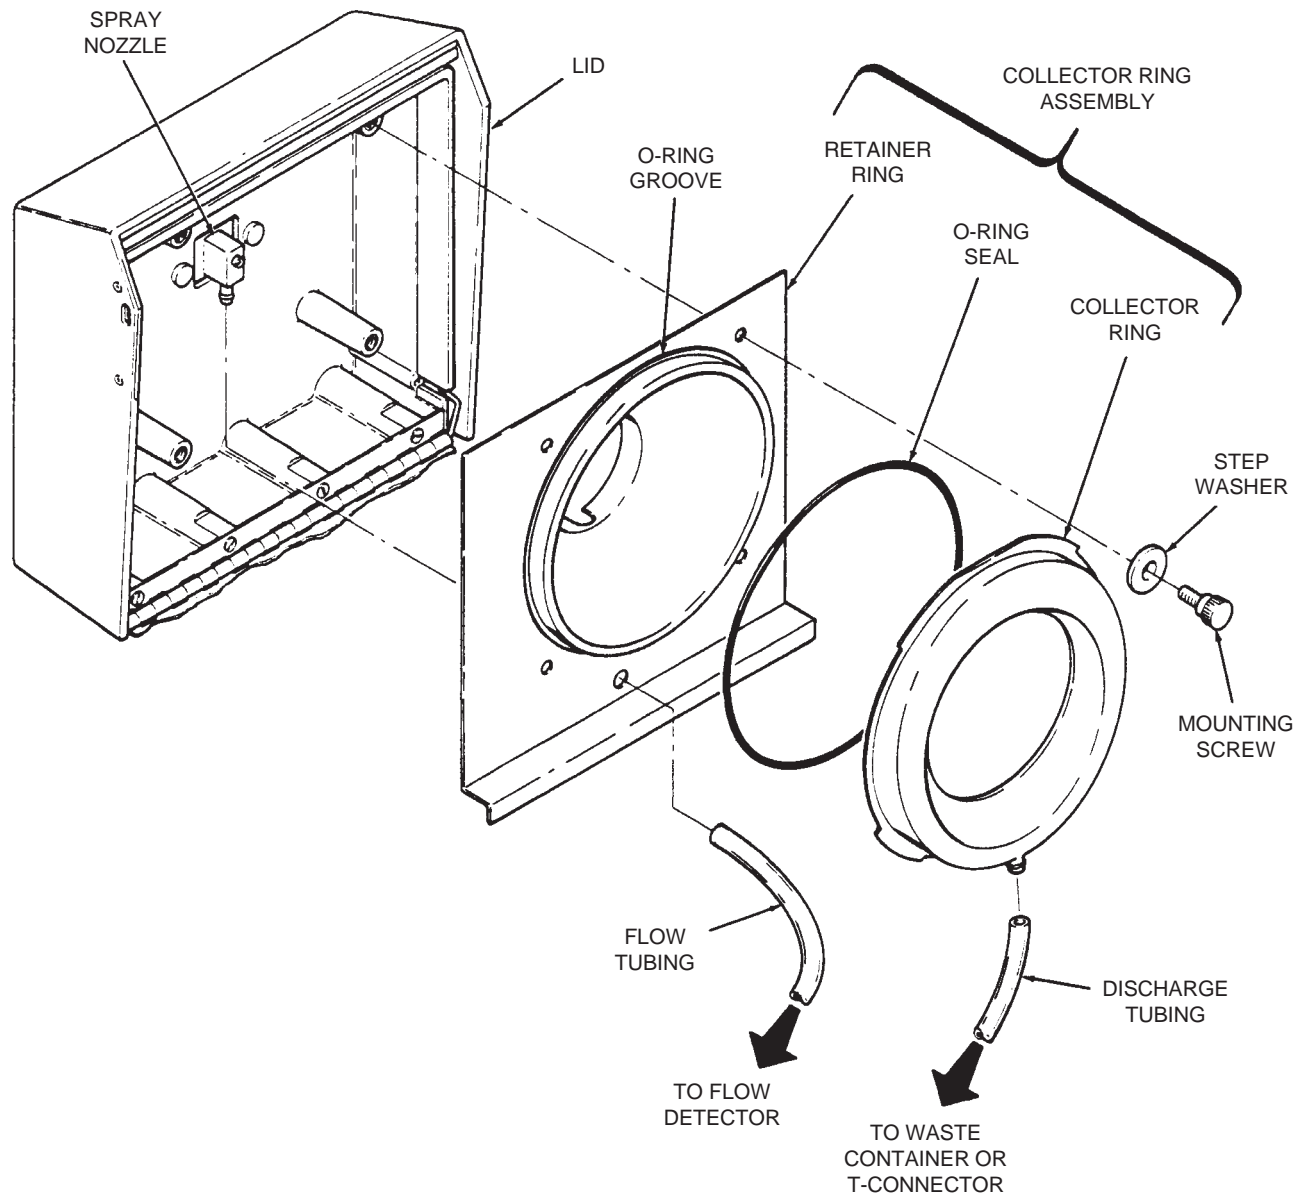

Figure 4-1. Collecting Ring Assembly, Exploded View
1. In the lid, separate the collector ring from the retaining ring by removing the four mounting screws and stepwashers (for parts identification, refer to Figure 4-1 on page 4-3). Clean all glass and residue from both sides of the collector ring, and from inside its drain nozzle and the connected discharge tubing. Using water, be sure the collector ring drains freely through the tubing – if not, clear blockage and recheck as required. Clean the surface of the retaining ring and its O-ring, then reassemble, making sure the collector ring is fully seated on the retainer ring before securing it with screws and stepwashers.
- Remove the collecting ring assembly and tubing for routine cleaning as follows (see figure 4-1):